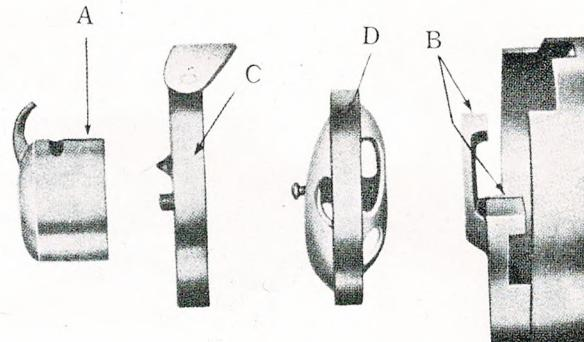

Fig. 35
- 2) Place shuttle body, D (Fig. 35), against shuttle driver and adjust into position.